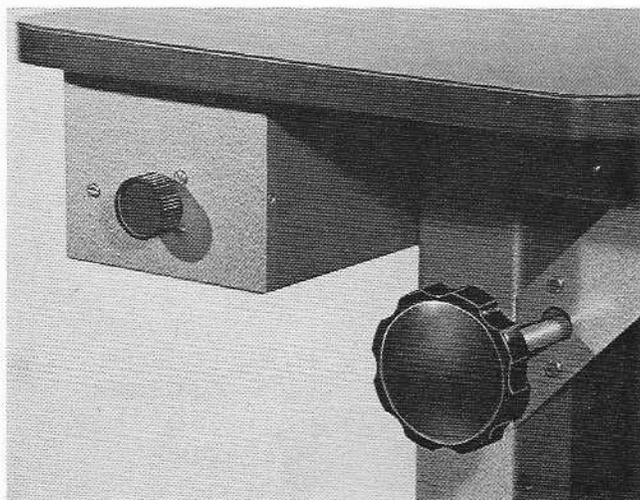

Figure 8. Manual and Motor Elevation Controls
**5.4 MANUAL ELEVATION CONTROL KNOB.** The control knob (see Figure 8) for manually positioning the camera carriage is located under the left side of the table.
**5.5 ELEVATION MOTOR CONTROL.** Turning the small knob on the elevation control box at the left of the table (see Figure 8) will activate the elevation motor, raising or lowering the camera carriage. Turning the knob counterclockwise will lower the carriage; turning the knob clockwise will raise the carriage. The speed of the carriage is controlled by the distance the knob is turned away from center. When the knob is moved back to center or when the carriage has reached the end of its travel, the carriage will stop.